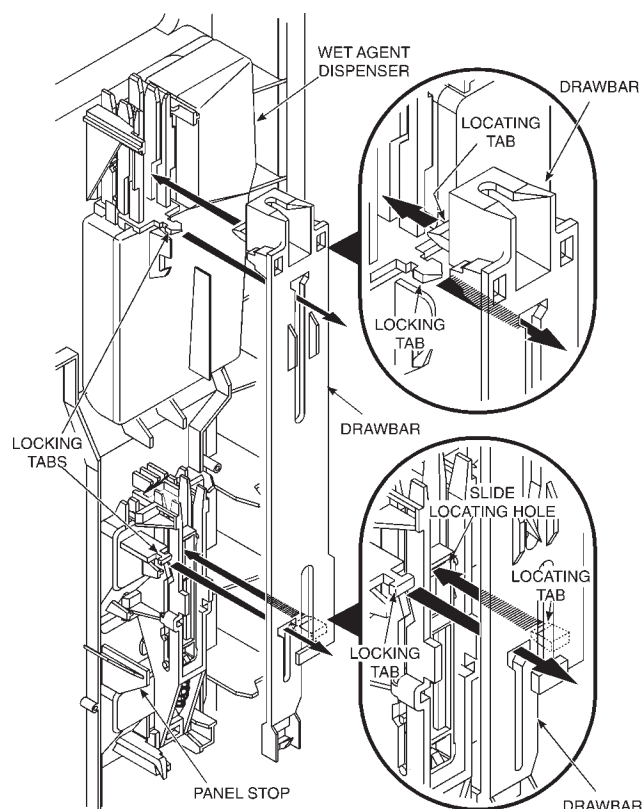

Fig. 2-16
2. Grasp the lower edge of the drawbar and pull it away from the panel stop. Slide the drawbar down until the drawbar holes align with the locking tabs, then remove the drawbar. Note how the locating tabs behind the drawbar align with their respective locating holes in the drawbar. (Fig. 2-16)